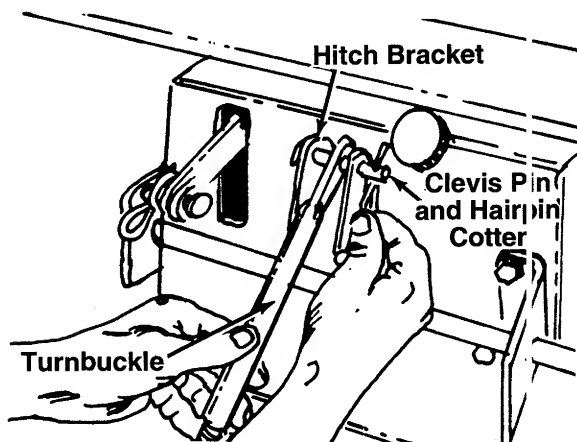

FIGURE 8.
7. Screw the two halves of the center turnbuckle together. Attach either end to any hole in the hitch bracket mounted in the center of the rear frame of the tractor with a clevis pin and hairpin cotter. See figure 8.